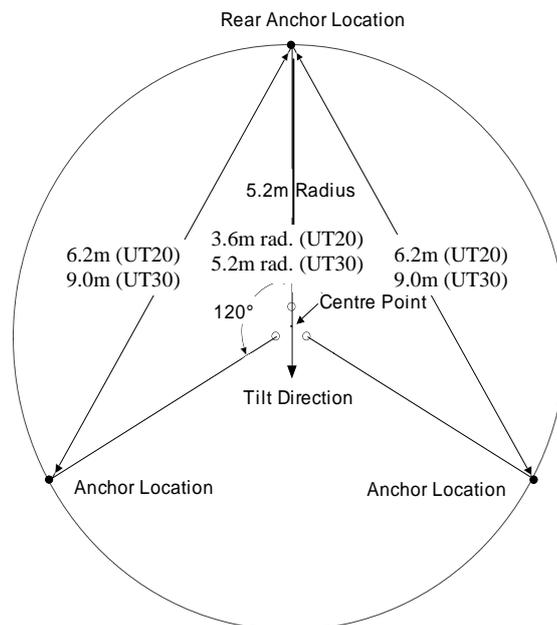
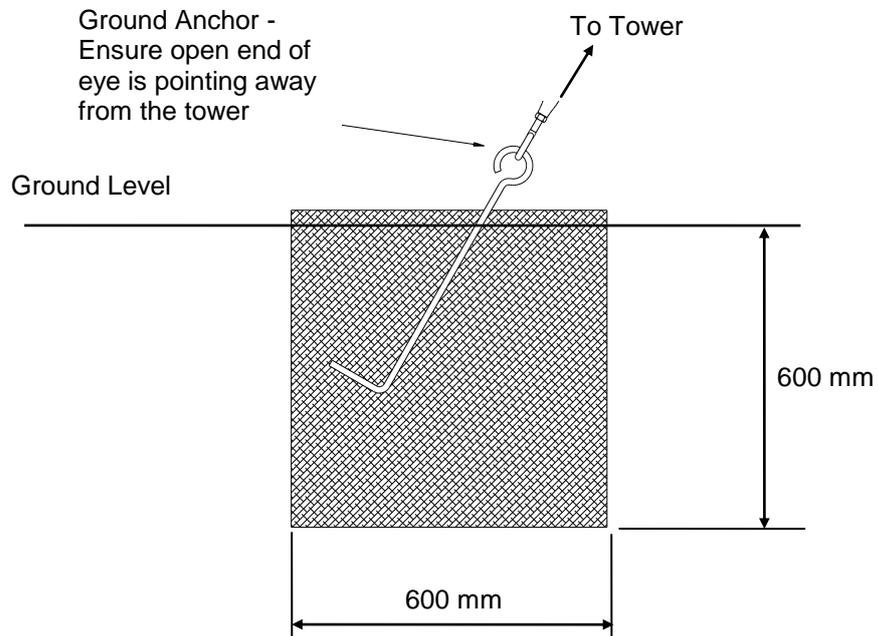

Figure 1-5 Top View of Base and Optional Ground Anchor Layout
Figure 1-6 Ground Anchor Installation
Figure 1-5 shows the layout of the guy anchors in relationship to the tower base. To mark the positions of the guy anchors:
4. From the centre point, walk in the opposite direction and drive a stake into the ground on the scribed line (see Figure 1-5). This marks the position of the rear leg anchor.
Locate the three anchor points (see Figure 1-5) and dig three holes 600 mm square by 600 mm deep. Fill the holes with concrete and install the eyebolts as shown in Figure 1-6.